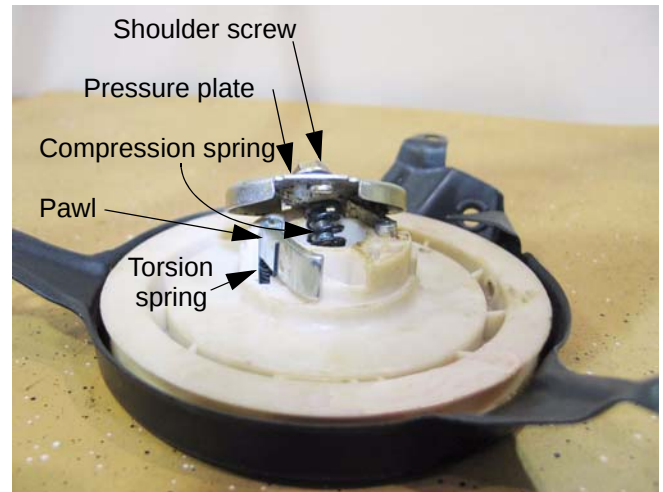

Figure 6.17
- 6.17. Install the torsion springs and pawls so that the long arm of the spring reaches outside of the pawl, and draws it toward the center of the assembly. See Figure 6.17.